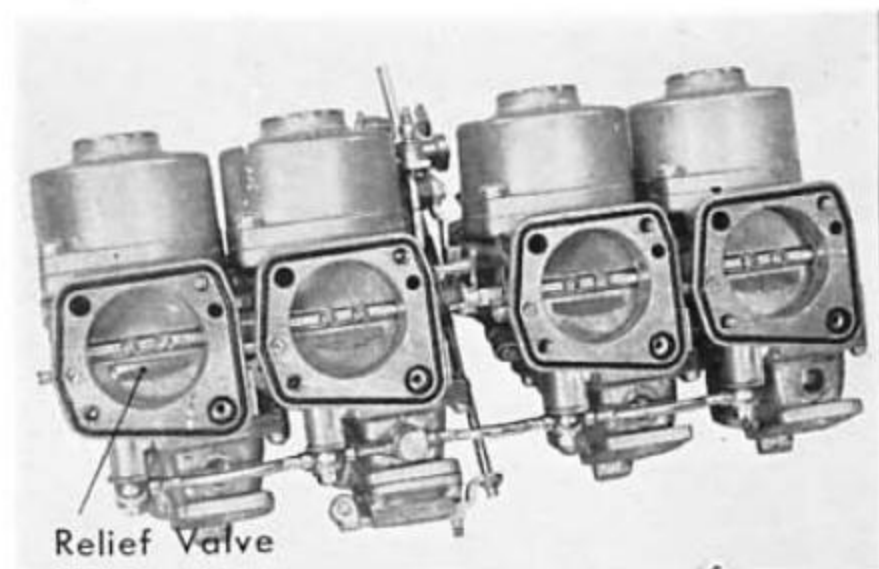

Fig. 2E-11
12. Unscrew the float cup setting screws, remove the float cup and pull out the float hinge pin and disassemble the float from the carburetor (Fig. 2E-9).